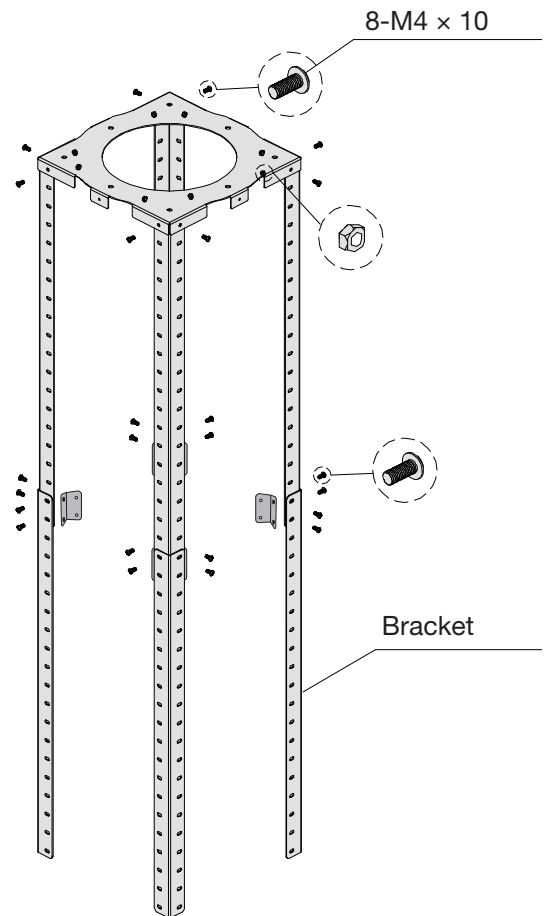

Figure 2
- Adjust to proper height and attach the brackets to the hanging scaffold (see Figure 2).